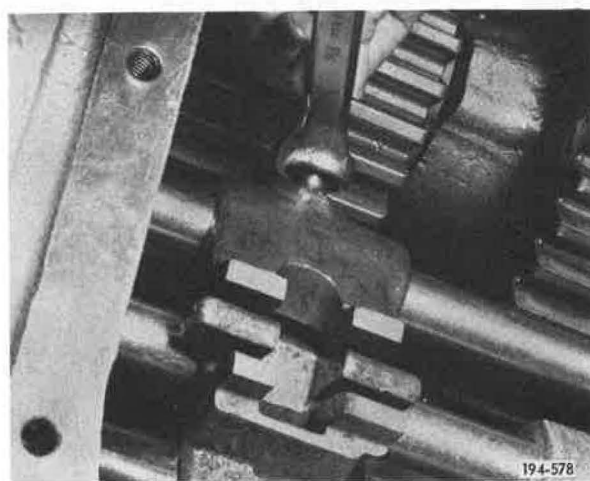

Figure 5-237. Removing Setscrew
16. Remove set-screw from fourth/fifth speed shift fork. See Figure 5-237.